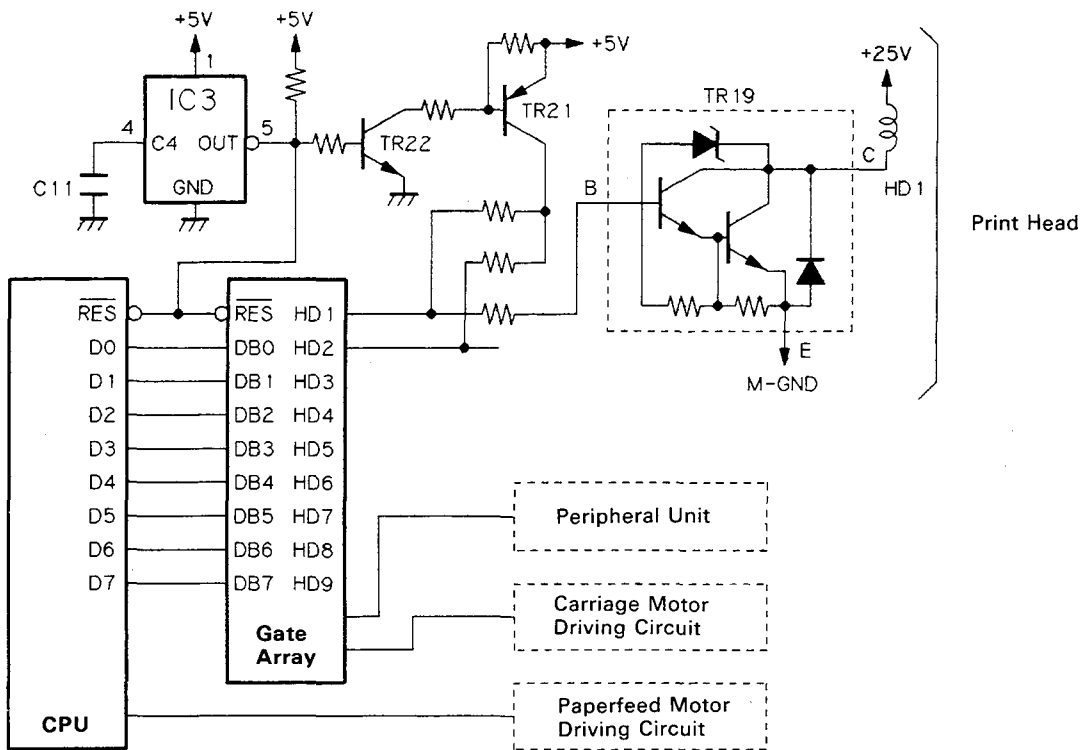

Fig. 2-8 Power On Reset Circuit
1. A voltage detecting IC (IC3 in Figure 2-8) detects momentary drops in voltage or unstable voltage supply (due to power failures, etc.) on the +5V line. If the voltage on the +5V line falls below 4.25V, the RESET signal appears at the output terminal of voltage detecting IC.